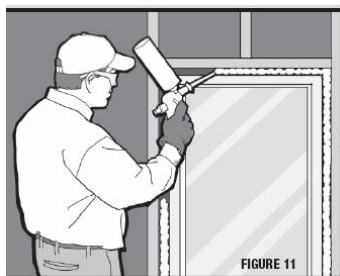

Figure 11
6.3.1 Starting at the header cavity on one side of the window, insert gun nozzle into gap (Figure 11).